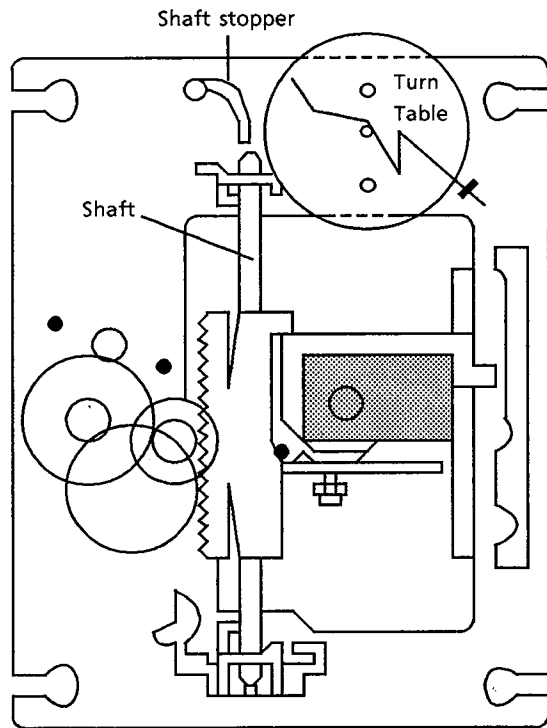

Fig 6 CD mechanism assembly
2. Release the shaft to remove the pickup (Fig 6).